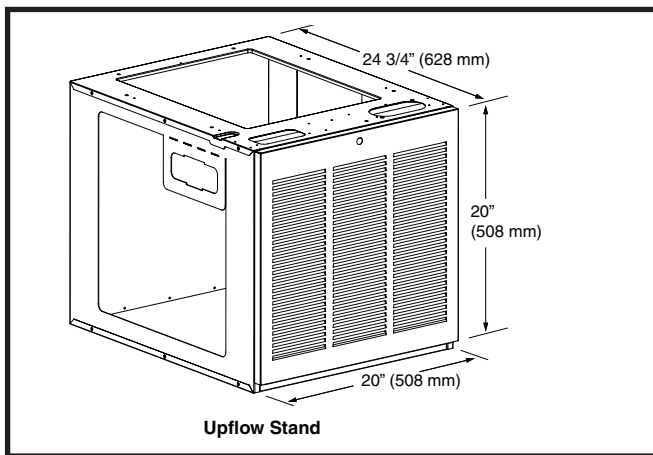

Figure 4. Optional Upflow Stand
- E7EM Models: Use a coil box with a solid door and an upflow stand (Figure 4 \(page 6\)). Part numbers can be found in the Technical Specifications Literature.
- Stand (Figure 4) will use filters provided with the unit. Remove any filters in the Appliance and follow proper installation. See instructions supplied with the upflow stand for additional details.